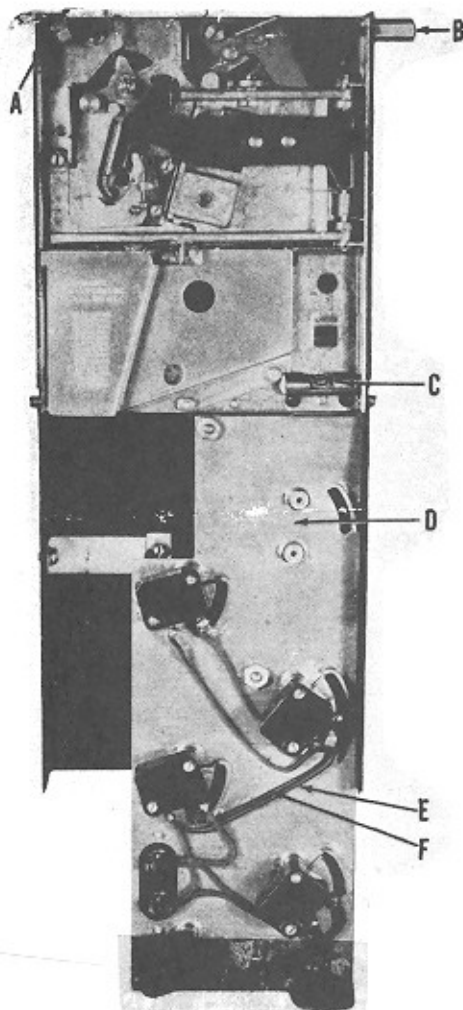

Fig. 6 - Slug Rejector Assembly
2. Check spirit level (C-Fig. 6). Adjustment made by loosening wing nuts (E and H-Fig. 1) and moving rejector unit back or forth until bubble in spirit level is centered between two marking points. Tighten nuts after adjustment is completed.
4. To remove slug rejector—remove hexagon nuts (A and B-Fig. 6). Raise unit upward then slip forward, making certain that slot at lower right hand corner clears tongue of drop switch.
For six plays for 25¢, install assembly No. 13101 at (D-Fig. 6).
For 1 play for 10¢, three plays for 25¢, remove wires (E and F-Fig. 6). For modification of slug rejector (to reject five cent coins), drawing No. 12694 furnished upon request.